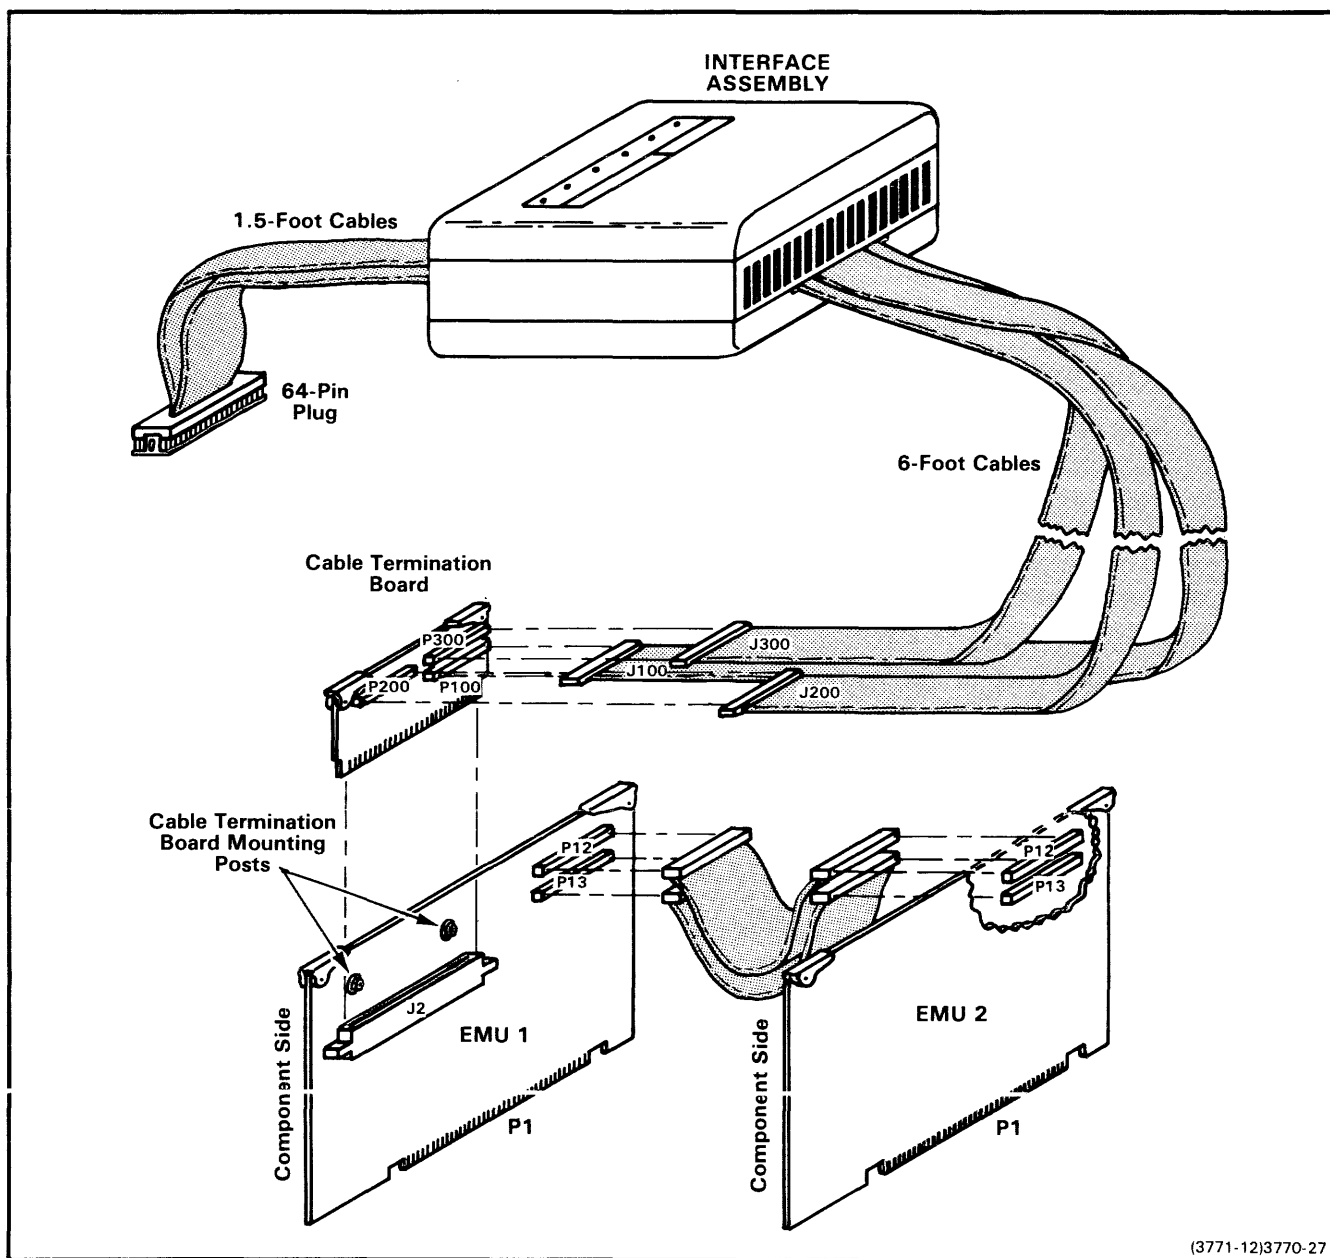

Fig. 9-2. 68000 Emulator Processor with Prototype Control Probe.
4. Remove the two retaining screws from the Cable Termination board mounting posts located on EMU 1 (see Fig. 9-2).
14. Attach the ribbon cable connector labeled J300 to P300 on the Cable Termination board (refer back to Fig. 9-2). Be sure that pin 1 of the cable connector (blue stripe) and pin 1 of the module socket align and are to the left when viewed from the component side of the module.